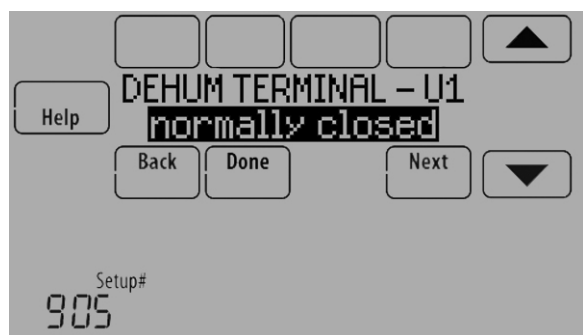

Fig. 192.
5. Select whether the U1, U2, or U3 terminals are Normally Open or Normally Closed. See Fig. 192.